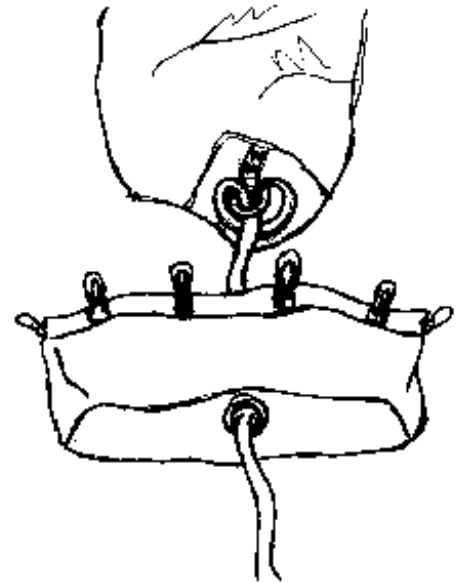

Figure 2-1
Step 6 Next attach the main bag to the canopy as follows (*Figure 2-1*):